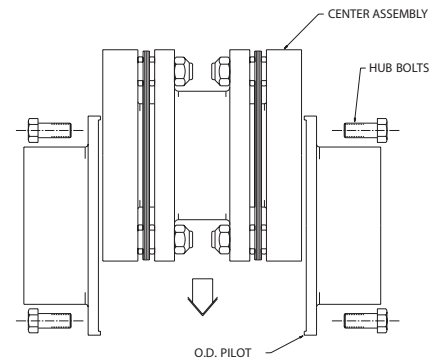

Figure 5. Installing center section
4.3 Tighten them evenly and collapse the disc packs equally, only enough to allow the center assembly to drop into place (see Figure 5).